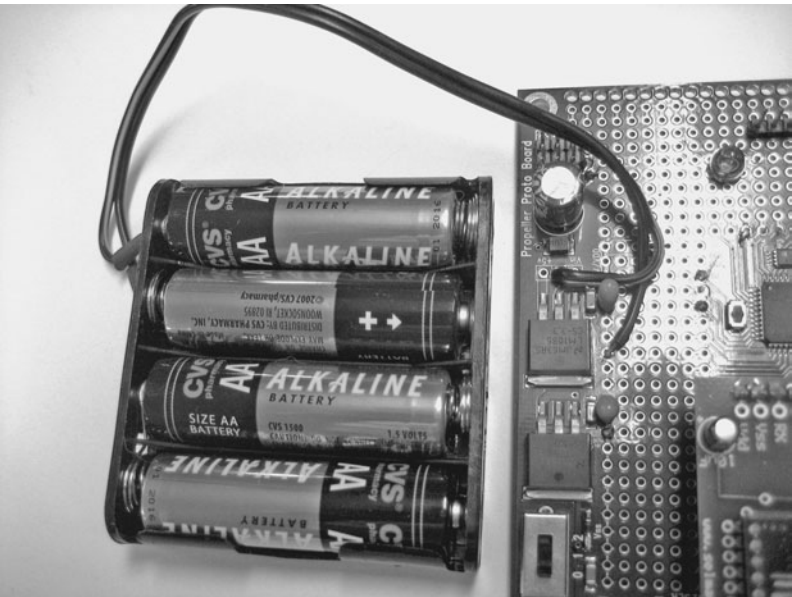

Figure 5-21 Supplying separate power for bot's servo drive.
- ✓ For the bot, two 4-AA packs were used with the spare tied under the normal battery pack. The second battery pack is used only for servo power. Attempts at using a single supply caused voltage and current spikes affecting the Propeller chip's operation. The connector of the battery pack was cut off and soldered to the servo header power and Vss (see Fig. 5-21). Other sources may be used, but supply voltage should not exceed 7.5 V or the servos can be damaged. Use coated wire to strap the batteries under the bot.